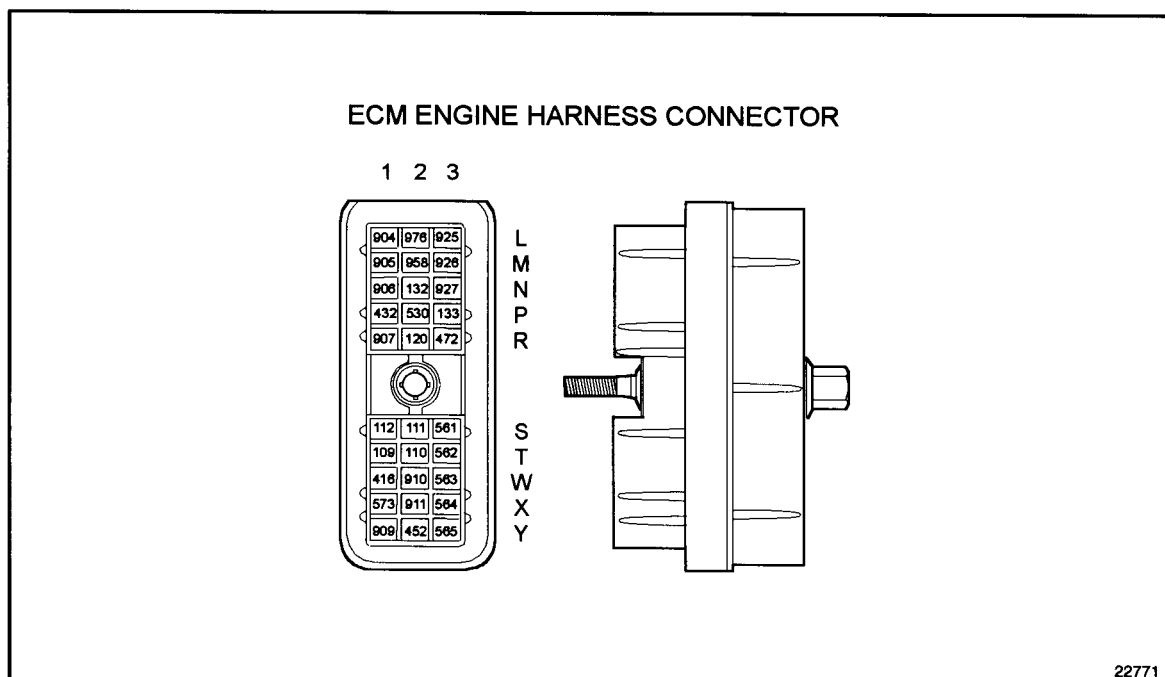

Figure 14-8 ECM Engine Harness Connector
1. Check terminals at the ECM engine harness connector (both ECM and harness side) for damage: bent, corroded and unseated pins or sockets. See Figure 14-8.